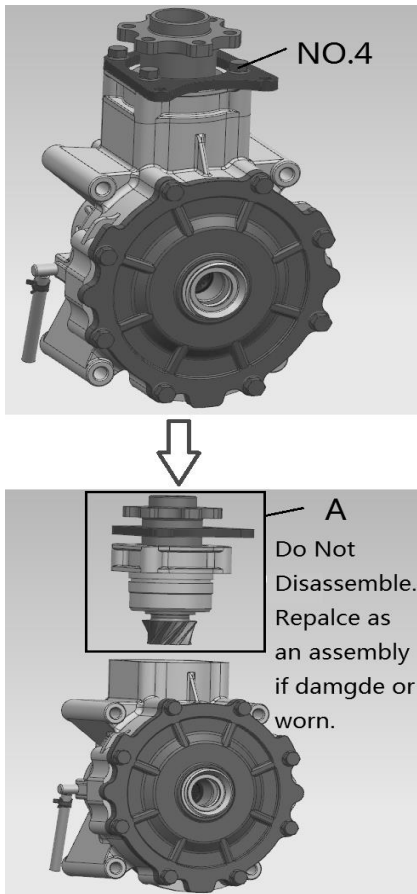

Fig 3
- 4.Remove the Bolts M8×50 (NO.4), Remove assembly (A). →Fig 3